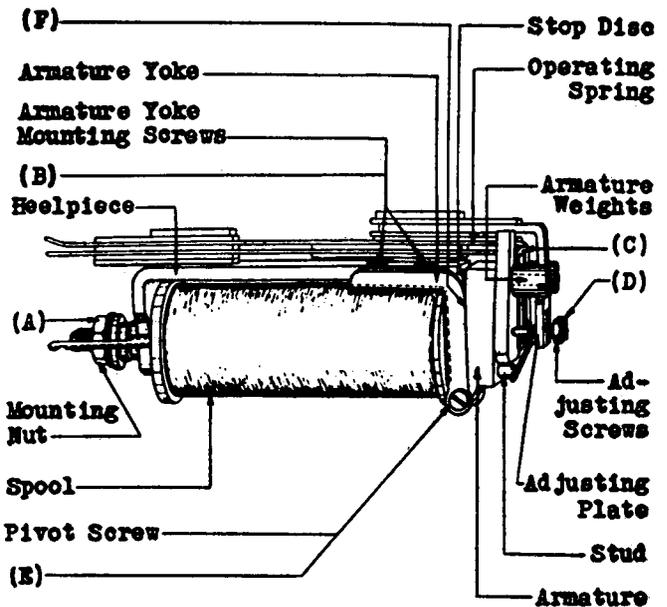

Fig. 4—366-type Relay
2.25 **Separation Between Springs:** Fig. 4(C)—There shall be a clearance between the springs at the upper bend in the springs of
2.26 **Tightness of Adjusting Screws:** Fig. 4(D)—The adjusting screws shall be sufficiently tight to prevent the relay changing its adjustment but shall not be so tight that it is necessary to use undue pressure in turning them.
2.27 **Armature Movement:** Fig. 4(E)—The armature shall move freely on its pivot screws.
2.28 **Clearance Between Armature and Yoke:** Fig. 4(F)—The armature shall clear the sides of the armature yoke by
2.22 **Relay Mounting:** Fig. 4(A)—The spool shall be fastened securely to the heelpiece and the heelpiece shall be fastened securely to the base plate. The base plate shall be fastened securely to the mounting strip.
2.24 **Tightness of Armature Yoke:** Fig. 4(B)—The armature yoke shall be fastened securely on the heelpiece.